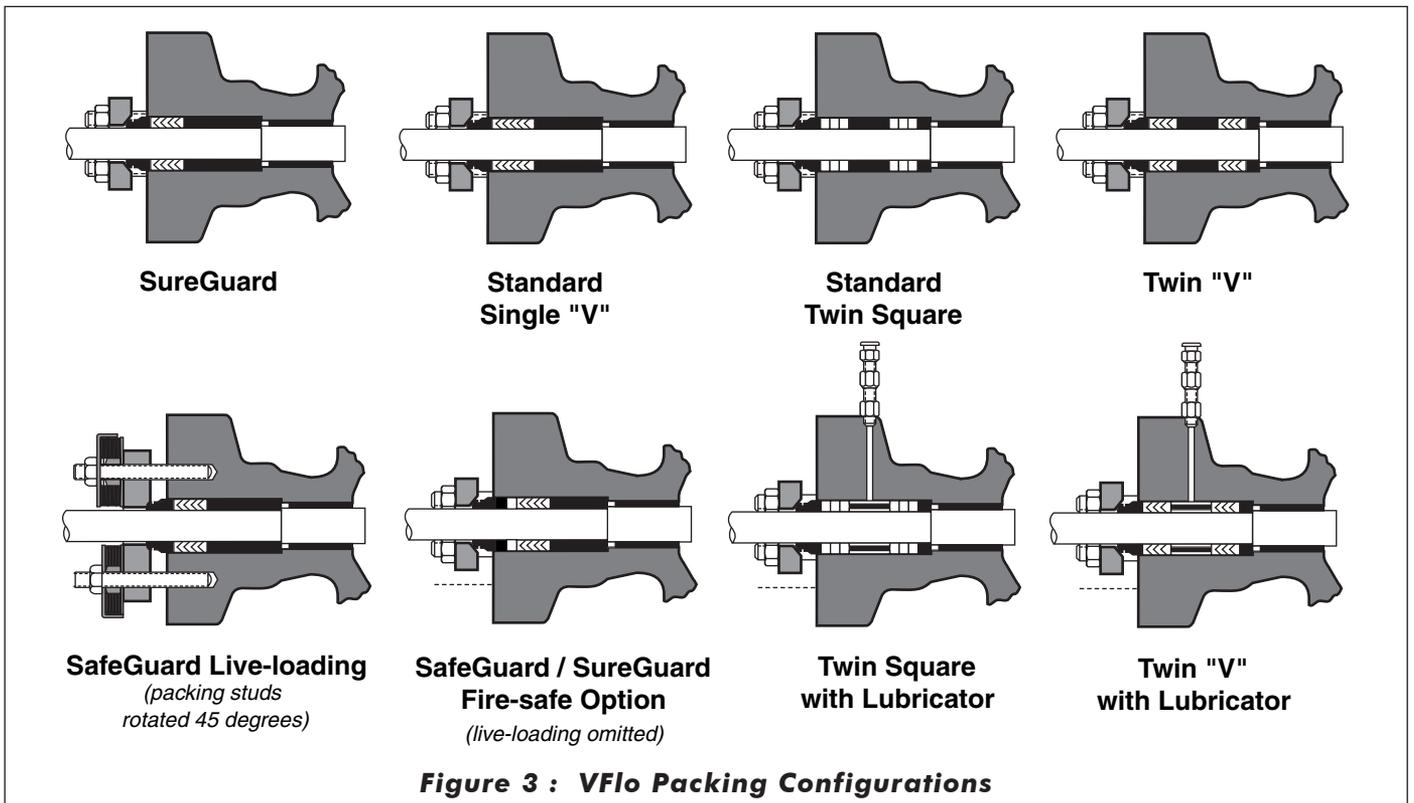

Figure 3 : VFlo Packing Configurations
- Over the splined end of the shaft and into the body, slide the thrust bearing, packing spacer, Packing, and packing follower. Most packing configurations are presented in Figure 3. (1-inch designs refer to Step 6.)